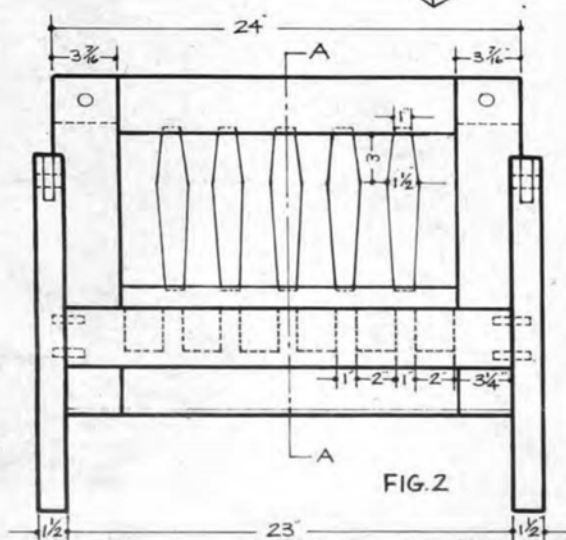

FIG. 2
Framing lumber generally has slight rounded corners. This will present no problem except where legs (B) of end frames and uprights (G) of back frame are joined to horizontal members. In order to get a flush joint, the inside edges of B and G are ripped or planed to remove the rounded corners. Figures 2 and 3 show these members with a width of 3 7/16 which accounts for this slight trimming.